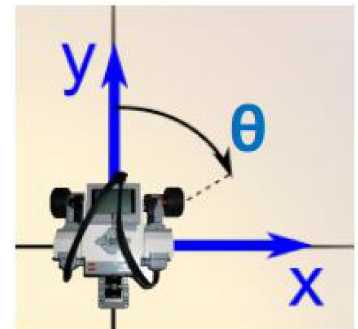
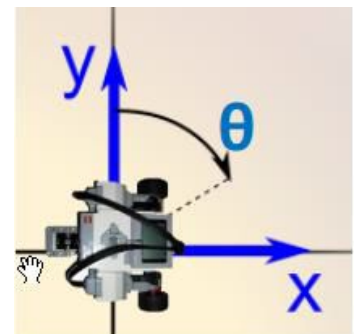

Figure 1: Robot faces north at 0° .
Figure 2: Robot faces east at 90° .
E.g. if the (**X**, **Y**, **θ**) convention is set as in Figure 1, then:
E.g. if the (**X**, **Y**, **θ**) convention is set as in Figure 2, then:
5. Do I have to follow the same (X, Y, θ) convention as in Figure 1 and Figure 2?
The robot's initial condition is based on your (X, Y, θ) convention - you must inform the TA about your initial orientation. Once the float motors option is selected on the robot, the TA will place your robot on a table. Assuming the same convention as in Figure 1, the TA will forcefully rotate both the wheels forward to test the Y values. Note that the robot will not move automatically, but rather the TA will rotate both wheels using his/her hands. The TA wants to notice whether the Y-value will increase or not, without affecting the X and θ values by much (since they could be affected due to experimental error). Therefore, the odometer's accuracy is irrelevant here. The main idea is to observe whether the odometer functions well using a fixed convention. A similar wheel-rotation test is also performed for checking decreasing values as well as for other variables.